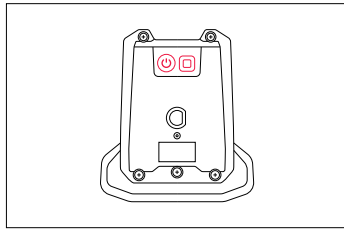

Figure 8
Step 3: Check the battery status (fig. 8):